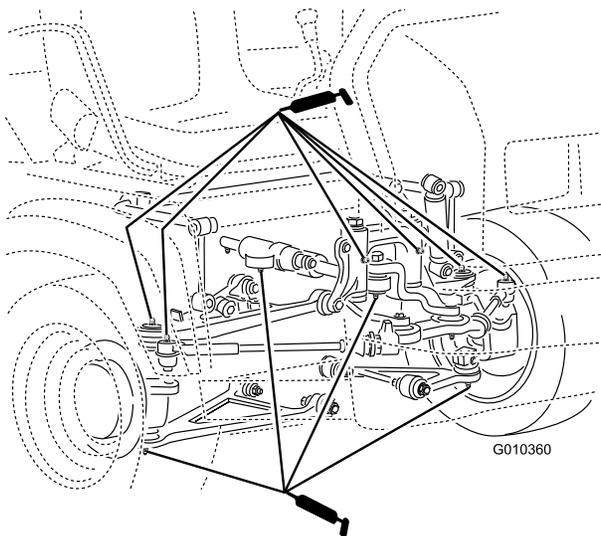

Figure 40
- Ball joints (4), tie rods (2) pivot mounts (2) and steering cylinder (2) (Figure 40)